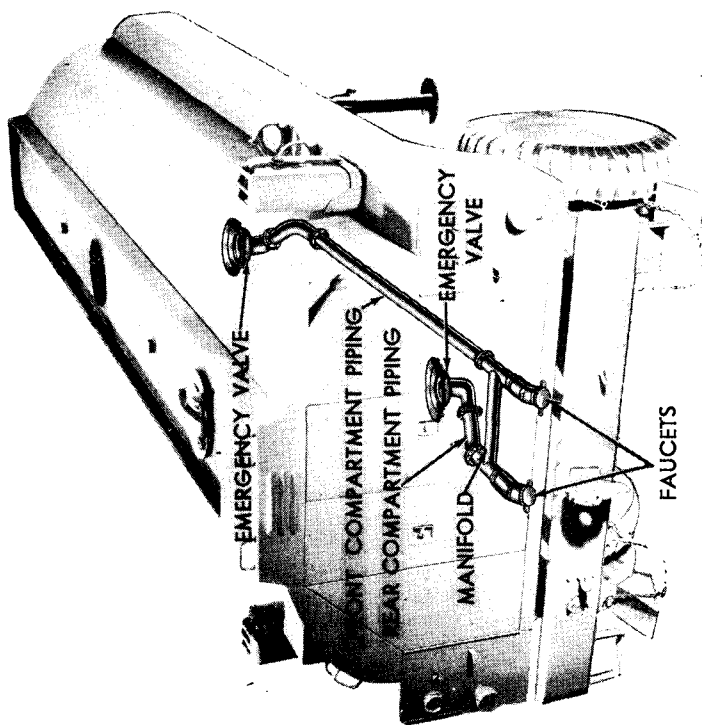

Figure 53—Piping Diagram
a. Description (fig. 53). A 3-inch emergency valve is bolted to the tank outlet flange of each tank compartment to control flow from the tank compartment. From these emergency valves, welded steel pipe assemblies lead to a manifold at the rear. The pipe assemblies are flanged and bolted to valve and manifold with gaskets, to seal the joints. Two 2-inch faucets are attached to the outlet manifold. The emergency valves are controlled by an operator at the left of the rear stowage compartment. A front safety release and fusible link are also provided to close the valve in case of fire in the stowage compartment. Valves are connected to the operator by cables enclosed in bundy weld tubing fitted with lubrication fittings.